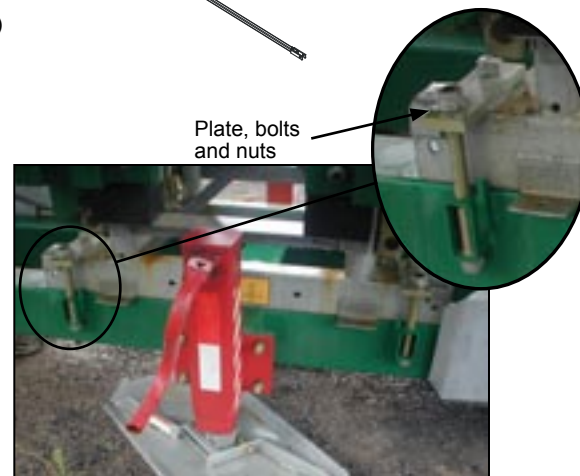

Fig. 147
- 4- Using the appropriate plates (4), bolts (8) and nuts (8) (fig. 147, inset), attach the base of the motorized unit to the mobile chassis.